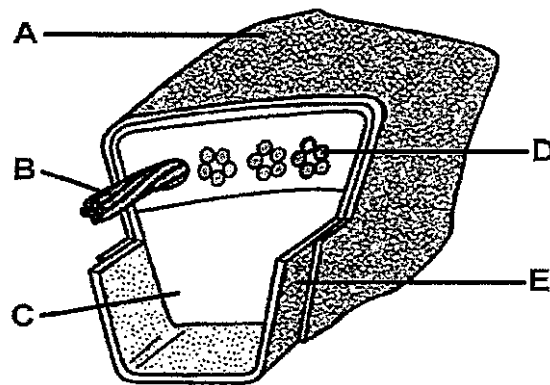

FIGURE 1
- 1.2 Refer to FIGURE 1 below of the cross sectional view of a V-belt: (5)